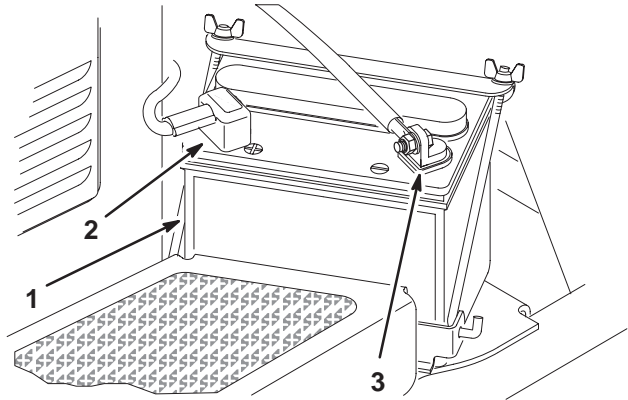

Figure 4
1. Set the battery in place, with the negative (–) terminal to the outside (Fig. 4).
- Secure the negative cable (black) to the negative (–) terminal of the battery with a capscrew and locknut (Fig. 4).